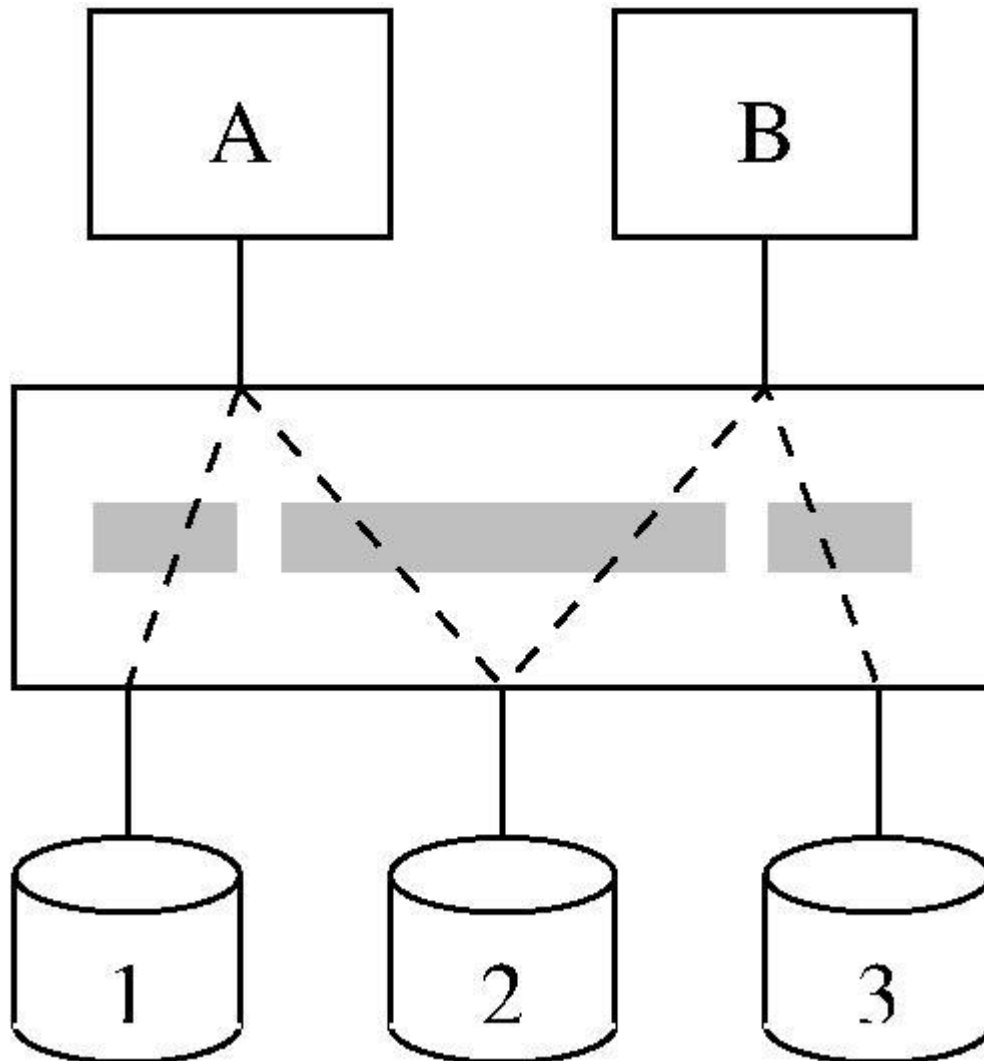

Figure 1. FibreChannel allows for LUN masking and zoning. Server A can access disks 1 and 2, and server B can access 2 and 3.
The advent of FibreChannel (FC) in the mid-to-late 1990s improved this situation considerably. Although compatibility was and to some extent still is a problem, the multi-kilometer FC lengths greatly simplified datacenter layout. In addition, most of the FC-connected RAID arrays export logical units (LUNs) that can, for example, be striped or mirrored across the underlying physical disks, simplifying storage administration. Furthermore, FC RAID arrays provide LUN masking and FC switches provide zoning, both of which allow controlled disk sharing. Figure 1 illustrates an example in which server A is permitted to access